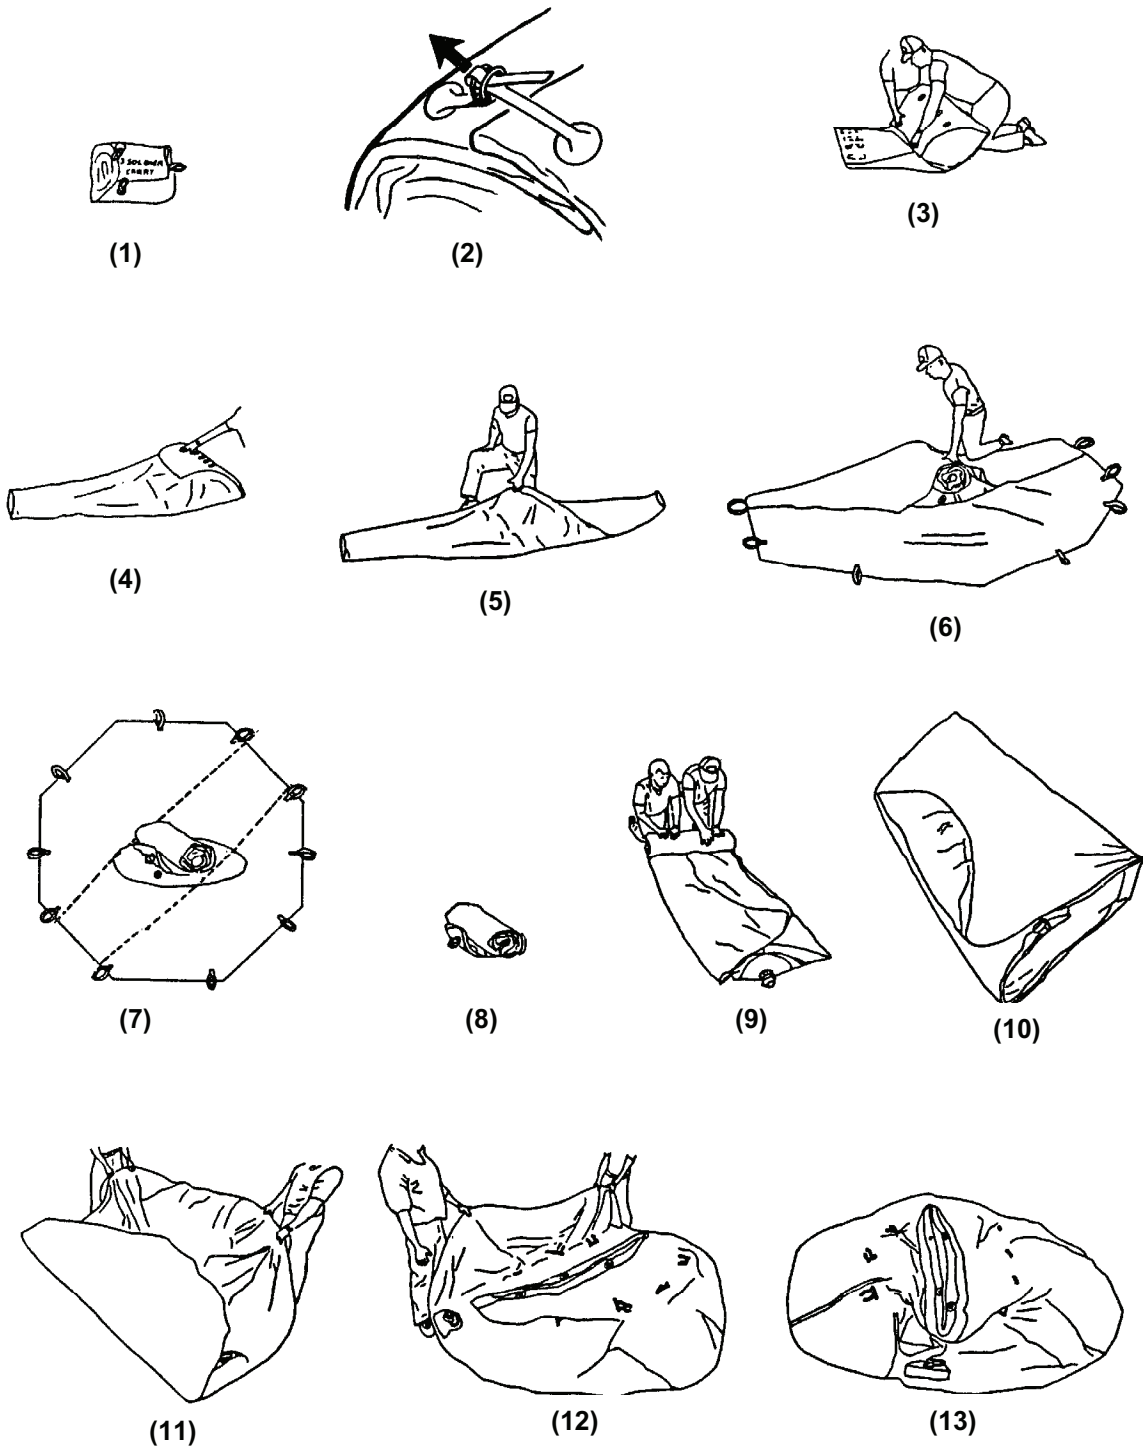

Figure 3. Unpacking Collapsible Fabric Tank.
1. Unfasten the two buckles on the tank protective cover closure straps. See Figure 3.